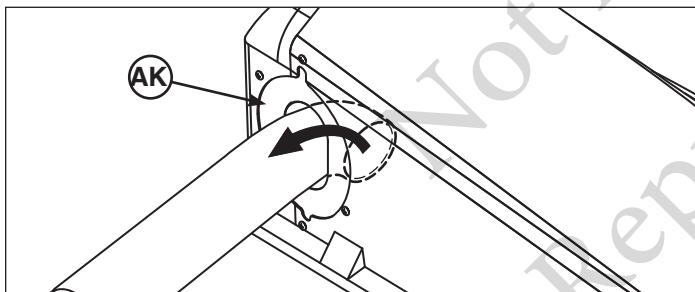

Figure 34
3. Slide the discharge end of tube assembly out of seal (AK, Figure 34) and remove tube assembly.